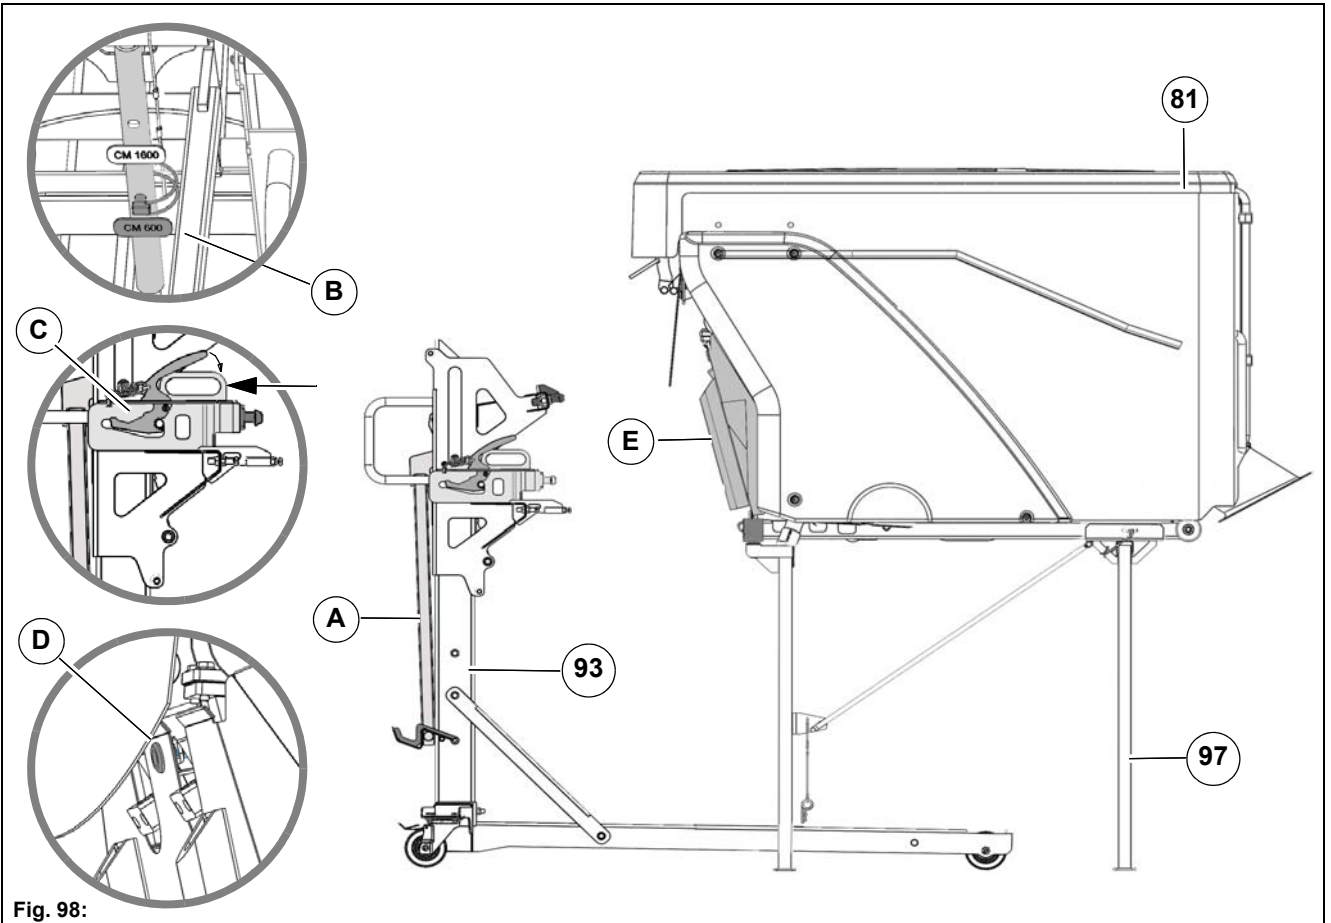

Fig. 98:
2. Unlock the lever **Fig. 98-A** of the trolley **Fig. 98-93** and swing it into the upper position.
3. Hold the lever **Fig. 98-A** in the upper position with one hand. With your other hand plug the mounting bolt **Fig. 98-B** on the Citymaster 600.
<p>Danger Risk of injury! The lever Fig. 98-A can swing over.</p>
4. Unlock the sledge **Fig. 98-C** with the lever and push it into the rear position.
5. Open the lock **Fig. 98-D** of the lid **Fig. 98-E** and swing the lid downwards.